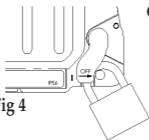

Fig 4
- The isolating lever can be padlocked in the on position, preventing access to the sockets, or preventing the supply of electricity from being interrupted. (See figure 4).